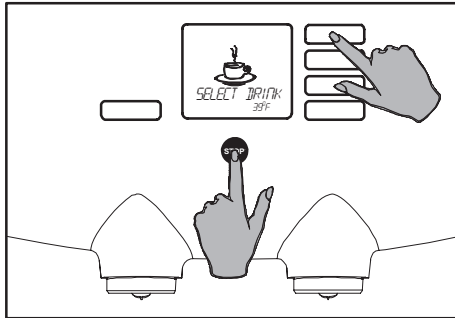

Fig. 68 Access the operator menu
1. Activate the operator menu (fig. 68), see also § "Access the operator menu" (fig. 27).